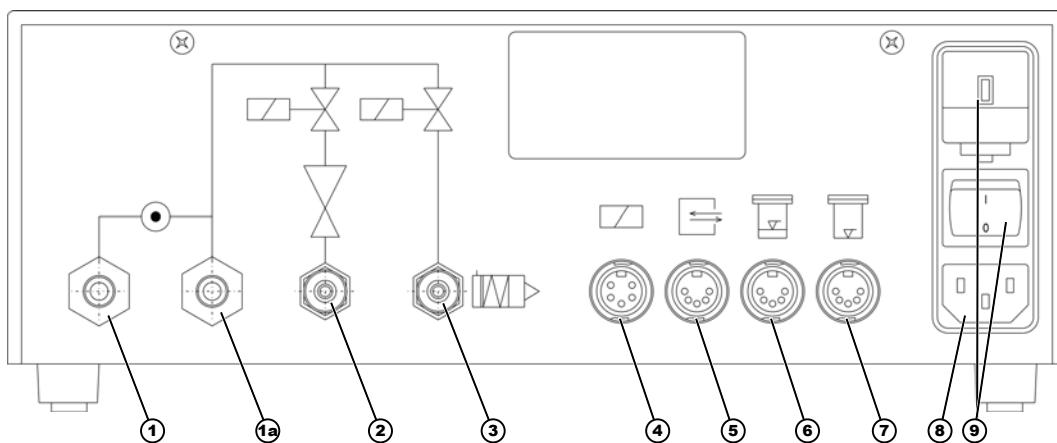

Fig. 3: Rückansicht
1.  Connect the MULTILINE 1000 S's Compressed Air Outlet 1a (see Fig. 3) to the pressure vessel via an external pressure controller. Set the pressure controller to minimum pressure.
Outlet 1a (see Fig. 3) is a direct branch from the MULTILINE 1000 S's Compressed Air Connection 12